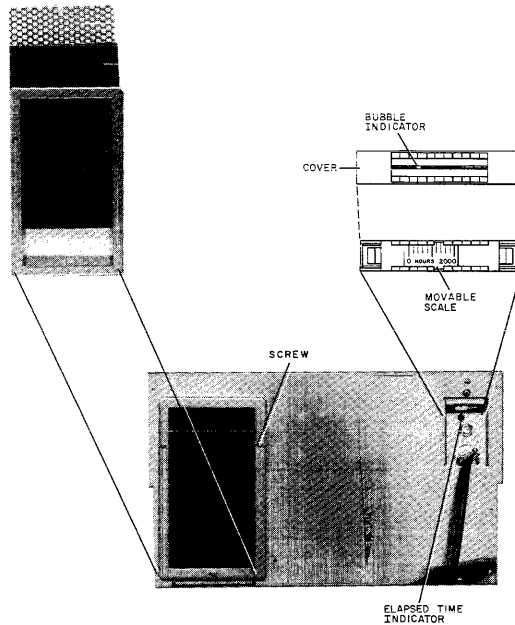

Figure 5-1 Prefilter Removal
The elapsed time indicator (Figure 5-1), located on the rear of the disk drive, indicates the number of hours that the drive has been operating. When power is applied to the drive, a bubble indicator moves from left to right within a mercury column. The movable scale beneath the bubble is graduated in 200-hour increments and furnishes
5. Vacuum the prefilter outer face (Figure 5-1). If there is excessive dirt on the prefilter, remove the filter (Paragraph 5.2.5) and clean it with a mild liquid detergent (e.g., Ivory) and warm water. Using the vacuum cleaner exhaust, air-dry the filter completely before installation.
3. Remove the three screws attaching the prefilter retainer to the drive (Figure 5-1) and remove the filter.
4. Install a new filter in the retainer, ensuring that the screen is behind the filter as shown in Figure 5-1.